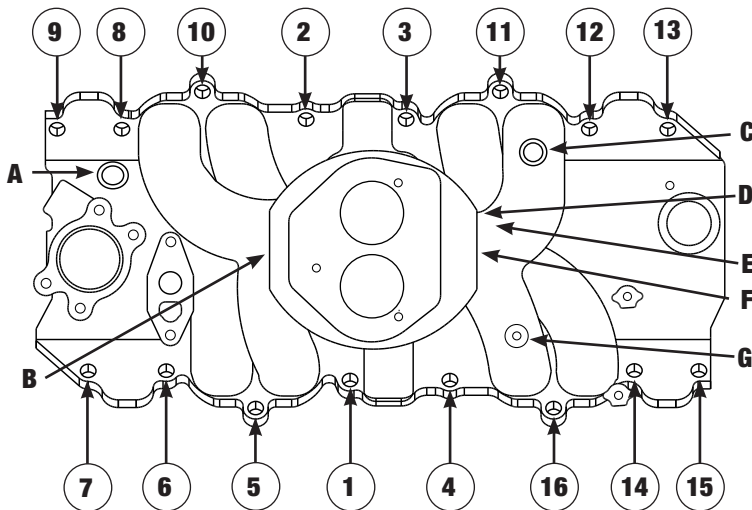

Figure 1 - Intake Manifold Tightening Sequence and Plumbing
5. **WARNING:** There is no gasket support for the manifold on the four bolt holes which are numbered 5, 10, 11, and 16 in Figure 1. Damage to the manifold will occur if these four bolts are over-tightened. Hand tighten them with a 6" box-end wrench. Do not use a torque wrench. Torque all of the remaining manifold bolts in two steps by the sequence shown in Figure 1 to 25 ft/lbs. For ease of installation, we recommend using Edelbrock Manifold Bolt & Washer Kit #8564.